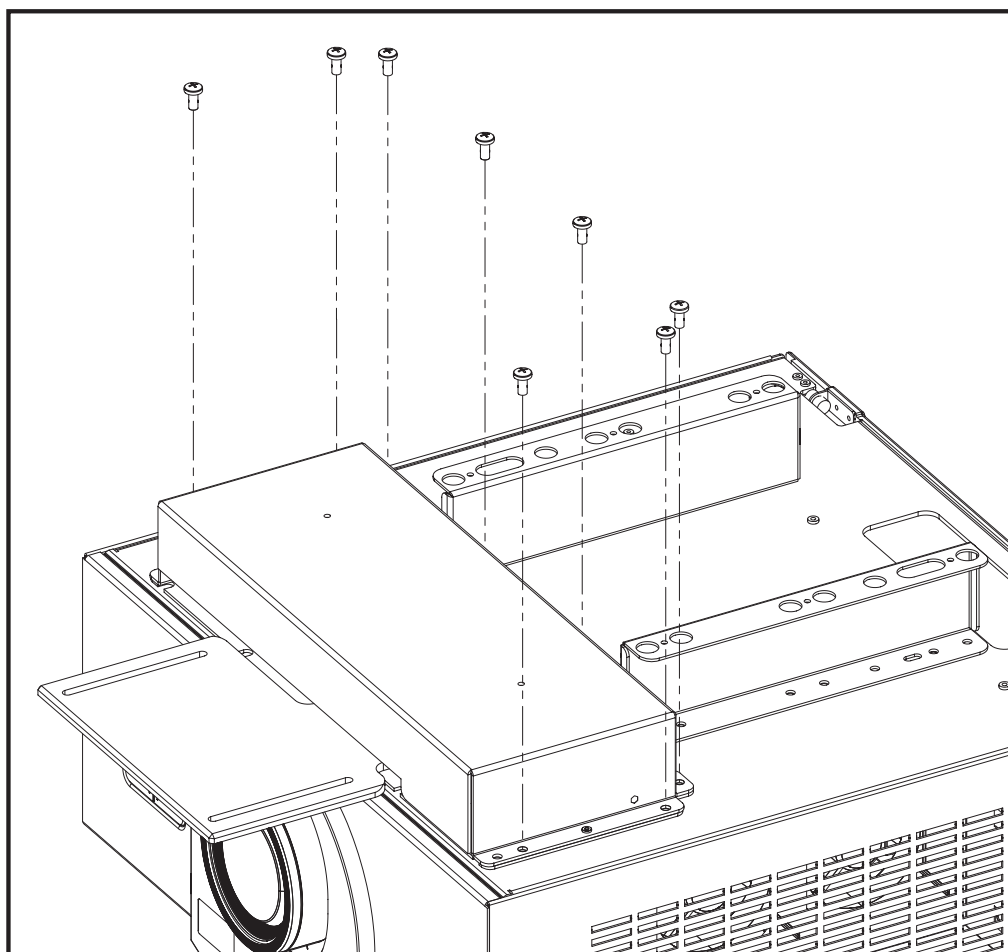

Figure 3-8. AutoScope Lens Motor Installation
1. Position the AutoScope Lens Motor as shown in Figure 3-8.
- Secure the motor to the projector with the eight (8) remaining M6 x 12mm Pan-Head Phillips screws.